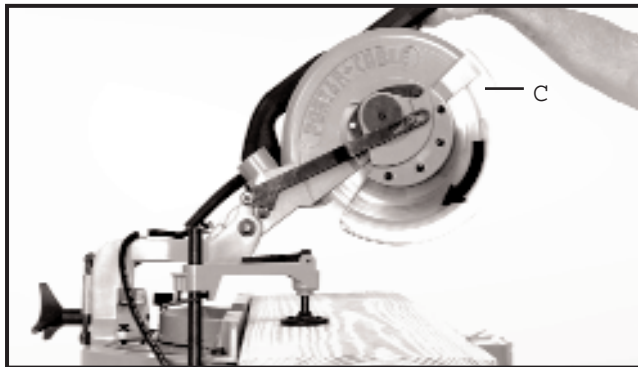

Fig. 41
3. Push down on the cuttinghead (C) Fig. 41, with the blade running, as shown.